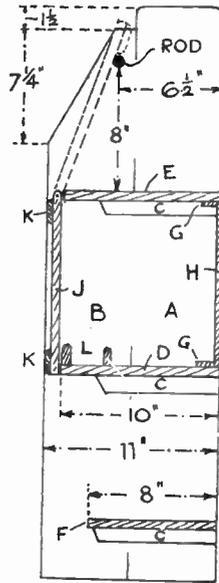

Fig. 3—Side elevation
Fig. 3 gives a sectional view showing the shelving and their supports, also the swing door showing the two positions, open and closed.
Dowels about 1in long and 1/4in diameter should be used, and the holes for them must be carefully bored to keep the edges of the battens true and level. It will be noted from Fig. 3 that one board in each pair, constituting one side, is 1 1/2ins. shorter than the other and that the front member only is cut to shape, the measurements here being given. The triangular piece so cut away can be done
Next prepare two fillets (G) 15ins. long and 1in. by 1/2in. and glue and nail them along the backs of the shelves (D) and (E) as shown to take the panel forming the back of the cupboard. The fillets will be put in 1/2in. from the back edges of the shelves to form the rebate for the panel shown as (H) in Fig. 3. The supports (C) under the shelf (E) can now be put in, the back edges of them being notched out to fit round the fillet (G).
The rails should be screwed on from the back so the heads do not show on the face of the door. The heads at back can be countersunk and filled before the black matt paint or special blackboard paint is put on. The correct position of the support rod for the door is given in Fig. 3.
It only remains to form the tray just inside the front of the cupboard for chalks etc. Two narrow rails cut the width of the cupboard and about 1 1/2ins. or 1 3/4ins. wide by 3/8in. thick are glued and screwed to the shelf (D) as seen at (L) in the section Fig. 3. Round the top edges and make them smooth.